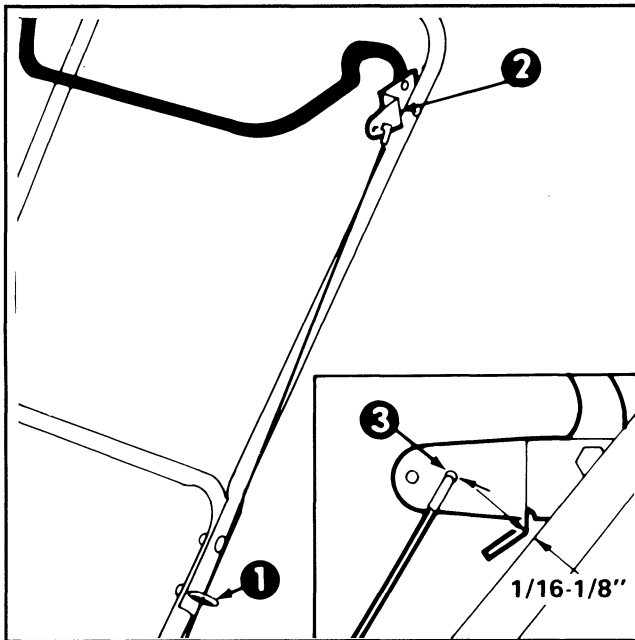

Figure 9
ADJUSTING CONTROL BAR (Fig. 9 & 10)
2. CHECK ADJUSTMENT (Fig. 9) — Move control bar back toward handle until slack in cable is removed. Gap between control bar bracket and handle should be approximately 1/16-1/8". If cable is too loose or too tight proceed to step 3 for adjustment procedure.